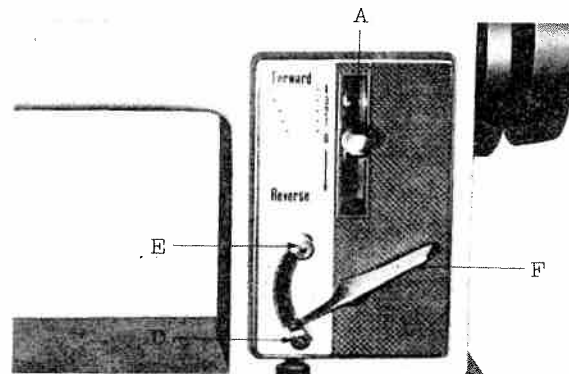

Fig. 15
1. Set lower stitch width lock (D, Fig.15) at 0 position.
2. Move stitch width lock (E, Fig.15) as far down as possible to lock zigzag stitch width control lever (F, Fig.15) in straight stitch position.
The length of the stitch is regulated by the lever (A) shown in Fig.15. Near 0 is the shortest and 4 the longest. Adjust stitch length stops by turning knurl knob on end of stitch regulator.